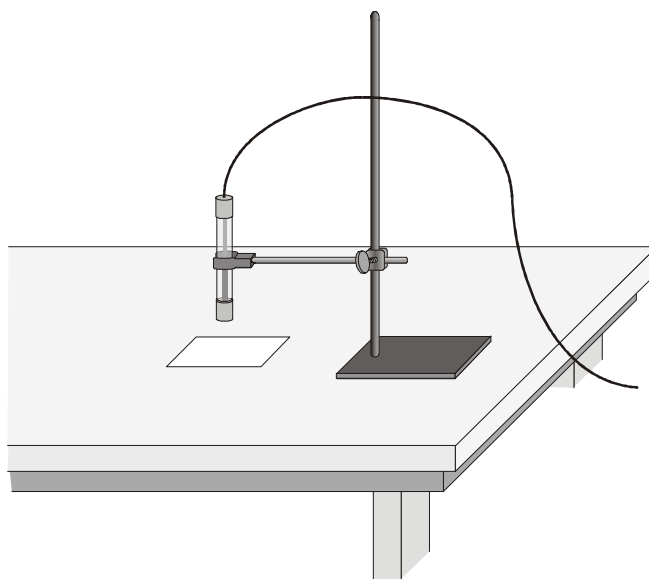

Figure 1
- e. Choose LIGHT 600 (LX) from the LIGHT list.
5. Use a utility clamp and ring stand to fasten the Light Sensor 5 cm from and perpendicular to a piece of colored paper as shown in Figure 1. The classroom lights should be on.